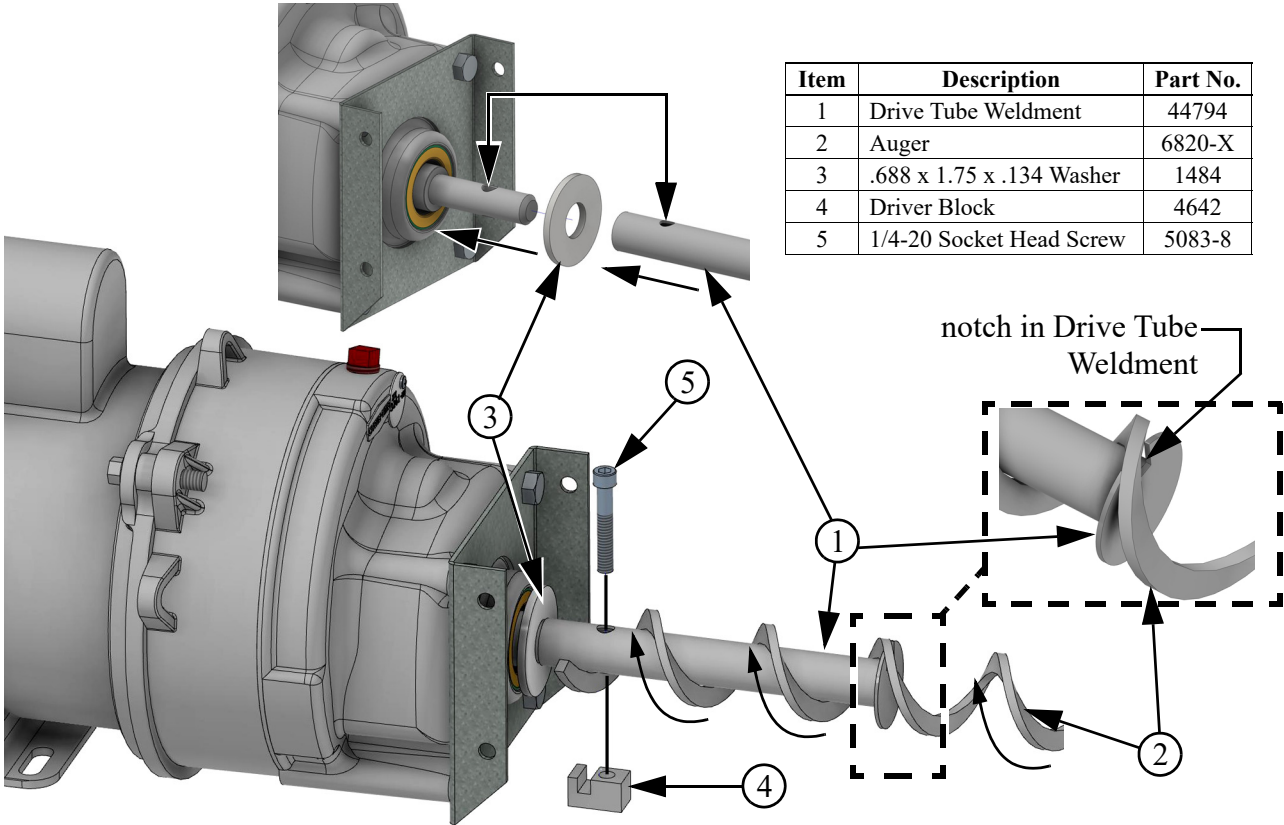

Figure 32. Auger Driver Components
- 4. Slide the Drive Tube and flat washer over the output shaft on the Power Unit, as shown in **Figure 32**.
- 6. Turn the Drive Tube Weldment into the auger, then attach to the output shaft of the Power Unit, as shown in **Figure 32**. Use the Driver Block to secure the auger to the Output Shaft.